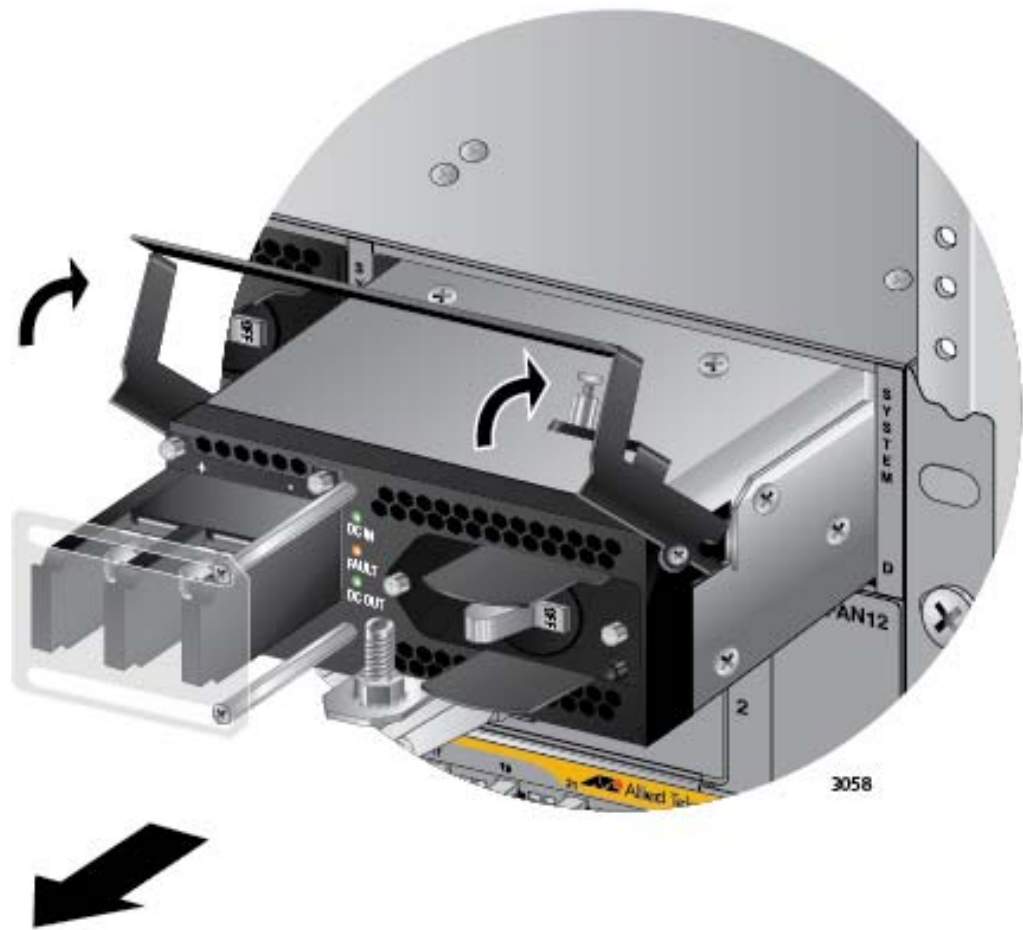

Figure 153. Lifting the Locking Handle and Removing the Power Supply
11. Lift the locking handle and slide the power supply from the chassis. Refer to Figure 153 on page 235.